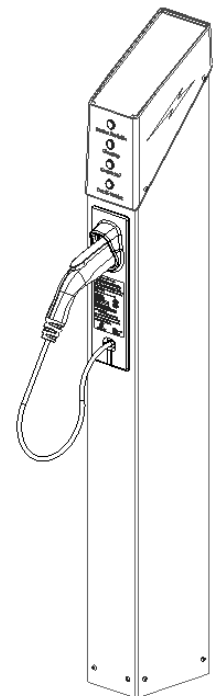

Figure 8 – Completed Installation
13. Return the charging cable to the cord reel by pulling cable approximate ½ inch to allow cable to retract into L2 PowerPost® EVSE. Place charging coupler into connector storage receptacle. (See Figure 8)